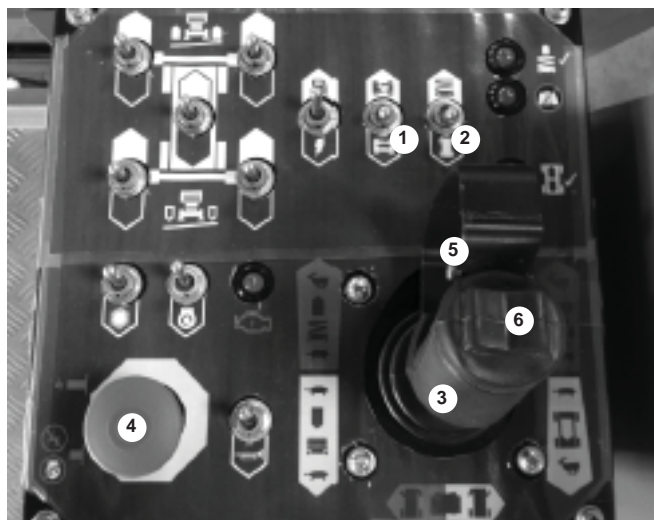

Figure 8.9
2. Set the speed switch (1) to turtle (slow) (see figure 8.9) if you are going to be driving close to other objects or need to move the S3970RT / S3370RT / S2770RT very slowly for other reasons.
3. Set the lift / drive switch (2) to drive (see figure 8.9).
To make a normal stop, slowly move the joystick controller (3) (see figure 8.9).
4. Squeeze and hold the safety control (5) against the joystick controller (3) (see figure 8.9).
5. Push the joystick controller (3) slowly forward or pull it slowly backward, depending on which way you want to go. The further you move the joystick the faster the machine goes.
6. To make a right or left turn, press and hold the steering rocker switch (6) on top of the joystick controller (3) (see figure 8.9).